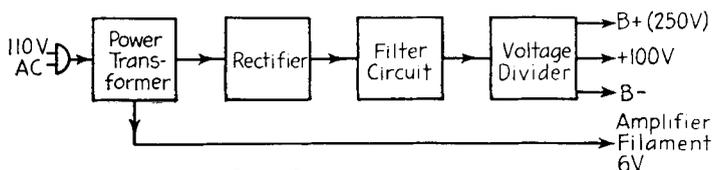

FIG. 8-1. Block diagram of AC power supply.
**Theory of operation of AC power supplies.** The basic parts of the power supply can be shown by the block diagram of Fig. 8-1.